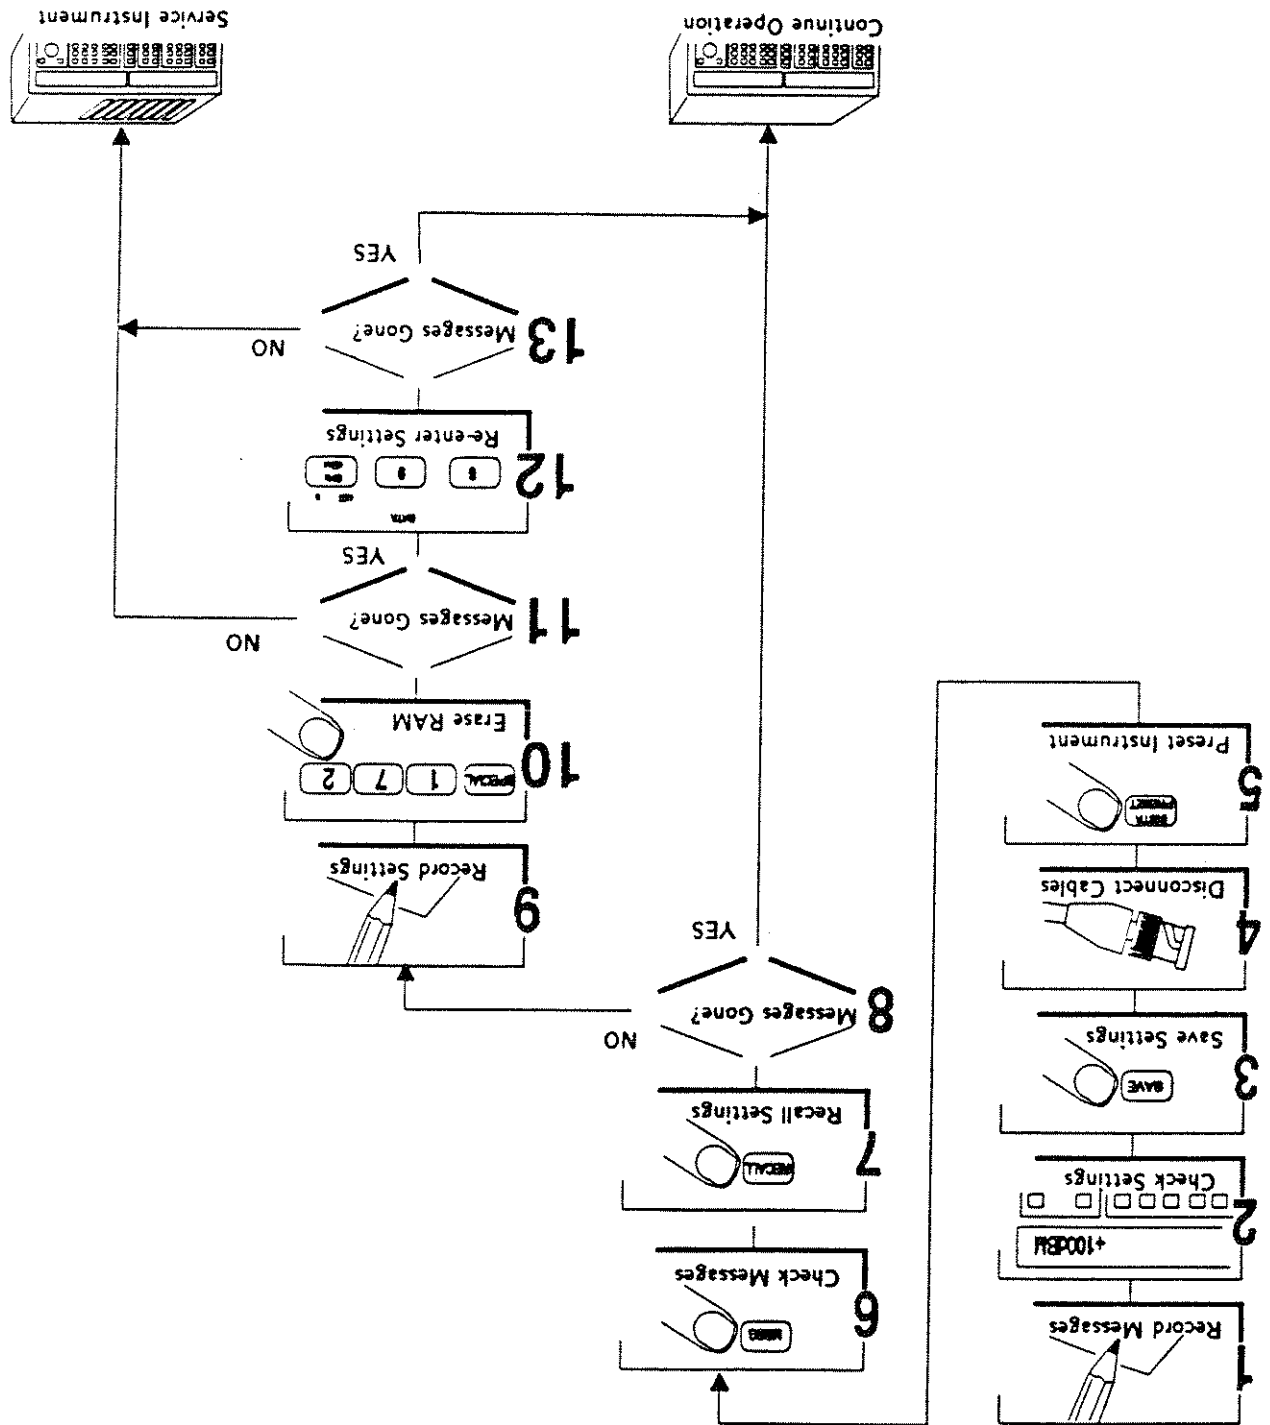

Figure D-1. Corrective Action for Error Messages
Hardware Failure 1	A communications discriminator failure has been detected at power up, or detected as a result of a self-calibration or self-test. Refer to figure D-1 for corrective action.
Hardware Failure 2	A VCO failure has been detected at power up, or detected as a result of a self-calibration or self-test. Refer to figure D-1 for corrective action.
Hardware Failure 3	A Fractional-N failure has been detected at power up, or detected as a result of a self-calibration or self-test. Refer to figure D-1 for corrective action.
Hardware Failure 4	A modulation distribution failure has been detected at power up, or detected as a result of a self-calibration or self-test. Refer to figure D-1 for corrective action.
Hardware Failure 5	An ALC failure has been detected at power up, or detected as a result of a self-calibration or self-test. Refer to figure D-1 for corrective action.
Hardware Failure 6	An attenuator failure has been detected at power up, or detected as a result of a self-calibration or self-test. Refer to figure D-1 for corrective action.
Hardware Failure 7	An audio source failure has been detected at power up, or detected as a result of a self-calibration or self-test. Refer to figure D-1 for corrective action.
Hardware Failure 8	A reference failure has been detected at power up, or detected as a result of a self-calibration or self-test. Refer to figure D-1 for corrective action.
Hardware Failure 9	A doubler failure has been detected at power up, or detected as a result of a self-calibration or self-test. Refer to figure D-1 for corrective action.
Hardware Failure 13	A front panel failure has been detected at power up, or detected as a result of a self-calibration or self-test. Refer to figure D-1 for corrective action.
Hardware Failure 14	A power supply failure has been detected at power up, or detected as a result of a self-calibration or self-test. Refer to figure D-1 for corrective action.
Hardware Failure 15	An I/O board failure has been detected at power up, or detected as a result of a self-calibration or self-test. Refer to figure D-1 for corrective action.
A controller failure has been detected at power up, or detected as a result of a self-calibration or self-test. Refer to figure D-1 for corrective action.	Hardware Failure 16
A frequency counter failure has been detected at power up. Refer to figure D-1 for corrective action.	Hardware Failure 18
A communications discriminator out-of-lock (OOL) condition exists. Refer to figure D-1 for corrective action.	Hardware Failure 21
A Fractional-N (NF) phase-locked-loop (PLL) out-of-lock (OOL) condition exists. Refer to figure D-1 for corrective action.	Hardware Failure 23
A VCO frequency-locked-loop (FLL) out-of-lock (OOL) condition exists. Refer to figure D-1 for corrective action.	Hardware Failure 24
A VCO phase-locked-loop (PLL) out-of-lock (OOL) condition exists. Refer to figure D-1 for corrective action.	Hardware Failure 25
A fast controller failure has been detected at power up, or detected as a result of a self-calibration or self-test. Refer to figure D-1 for corrective action.	Hardware Failure 26
An audio source out-of-lock (OOL) condition exists. Refer to figure D-1 for corrective action.	Hardware Failure 27
A reference out-of-lock (OOL) condition exists. Refer to figure D-1 for corrective action.	Hardware Failure 28
A ROM failure has been detected at power up, or detected as a result of a self-calibration or self-test. Refer to figure D-1 for corrective action.	Hardware Failure 31
A ROM failure has been detected at power up, or detected as a result of a self-calibration or self-test. Refer to figure D-1 for corrective action.	Hardware Failure 32
A ROM failure has been detected at power up, or detected as a result of a self-calibration or self-test. Refer to figure D-1 for corrective action.	Hardware Failure 33
<p>Hardware Failure 34</p> <p>Hardware Failure 35</p> <p>Hardware Failure 36</p>	<p>A ROM failure has been detected at power up, or detected as a result of a self-calibration or self-test. Refer to figure D-1 for corrective action.</p> <p>A voltmeter failure has been detected at power up, or detected as a result of a self-calibration or self-test. Refer to figure D-1 for corrective action.</p> <p>A RAM failure has been detected at power up, or detected as a result of a self-calibration or self-test. Refer to figure D-1 for corrective action.</p>
<p>Calibration Error 1</p> <p>Calibration Error 2</p> <p>Calibration Error 3</p>	<p>A condition occurred where invalid level calibration data resides in either the Output or the Attenuator modules. Follow the external calibration procedures outlined in figure D-1.</p> <p>At some time during the calibration or self-test, a condition occurred where some hardware was unable to be calibrated. Fix the hardware and re-calibrate. Refer to figure D-1 for corrective action. This error message will always be accompanied by other error messages.</p> <p>A sensor indicates that inside temperature has varied $\pm 10^\circ$ Centigrade ($\pm 18^\circ$ Fahrenheit) from where the temperature was when the instrument was last calibrated. A re-calibration by activating Special Function 171 may be necessary for the instrument to maintain its specifications.</p>
<p>User Memory Cleared</p> <p>Reverse power detected</p>	<p>A memory failure has been detected, all battery backup memory is lost. Refer to figure D-1 for corrective action.</p> <p>A reverse power condition was detected at the RF Output. (Disconnect the affected output from any external equipment and re-enter the key sequence that originally resulted in the error. If an error is still detected by the instrument, a reverse power problem still exists.)</p>
A transient reference out-of-lock (OOL) condition occurred. Refer to figure D-1 for corrective action.	Transient Error 8
A transient doubler out-of-lock (OOL) condition occurred. Refer to figure D-1 for corrective action.	Transient Error 9